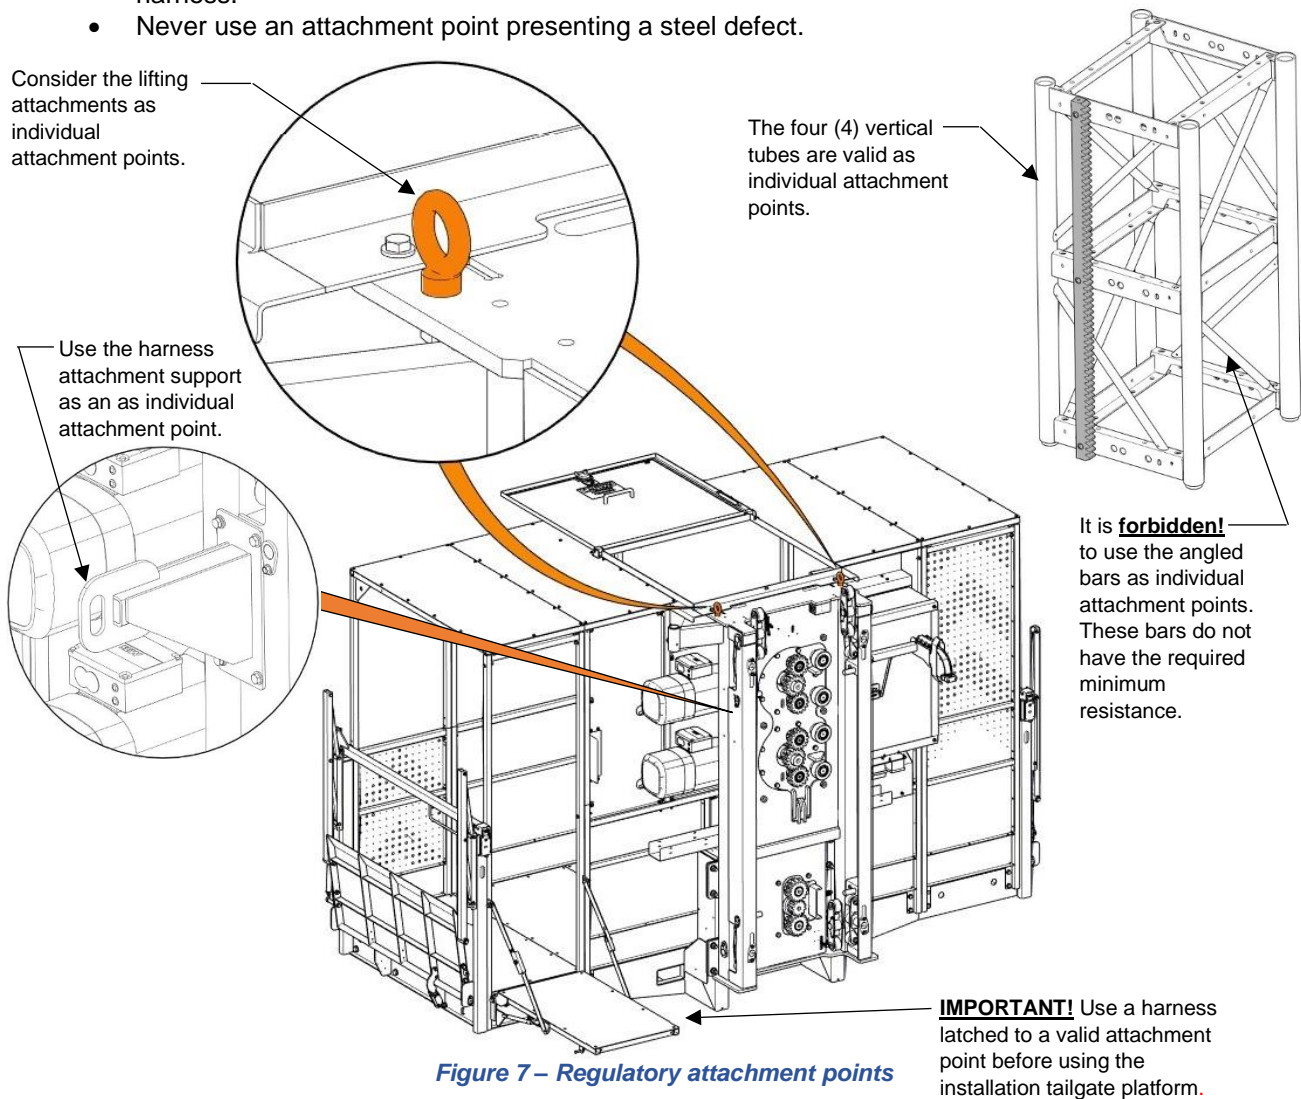

Figure 7 – Regulatory attachment points
- Use only the regulatory attachment points shown on FIGURE 7.
- Only one (1) worker per individual attachment point.